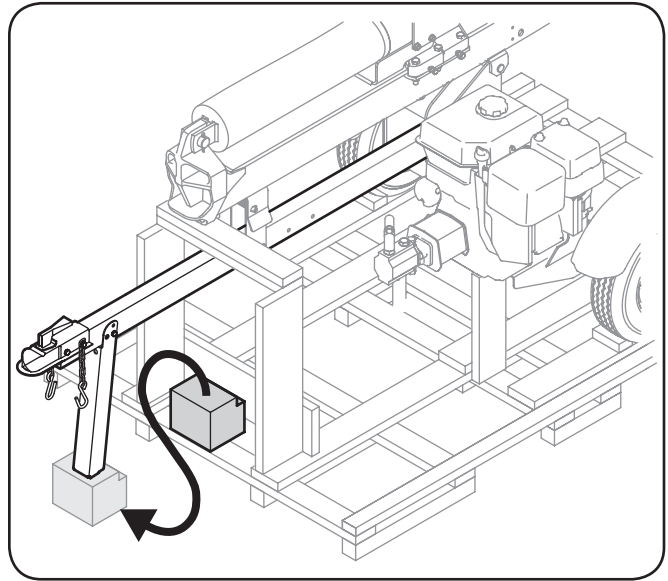

Figure 3-5
3. Carefully pry the small block of wood from the base of the crate and position it beneath the jack stand. See Figure 3-5.